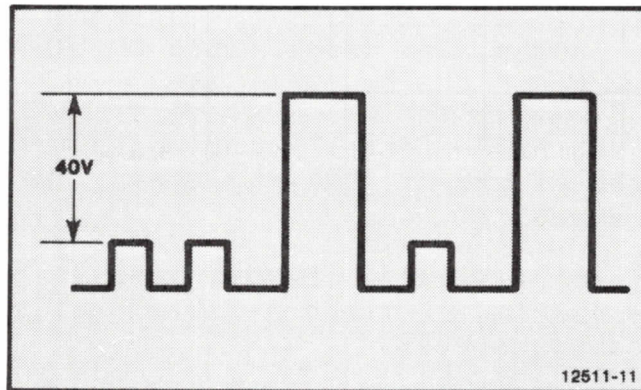

Figure 10-20. Waveform at R246.
4. Adjust R427 to between 40 and 50 V measuring from the top of the small pulses to the top of the large pulses. See Figure 10-20. This voltage may later be changed to accommodate dropout or focus.